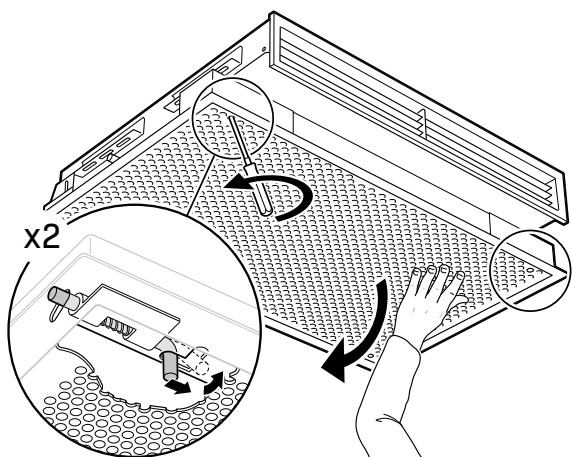

FIGURE 7. Unhook the water connection and unscrew the screws holding the front plate in place.
- 2) To adjust the ORION II IQHA's energy control, first detach the flexible hose from the water connection and then unfasten the screws located on the corners of the front plate. (See **FIGURE 7**)